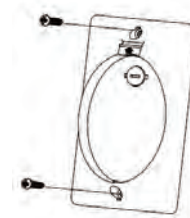

Fig. 24
**Step 1.** Select a location to install your handset control holder, install the holder as shown. (Fig. 24)